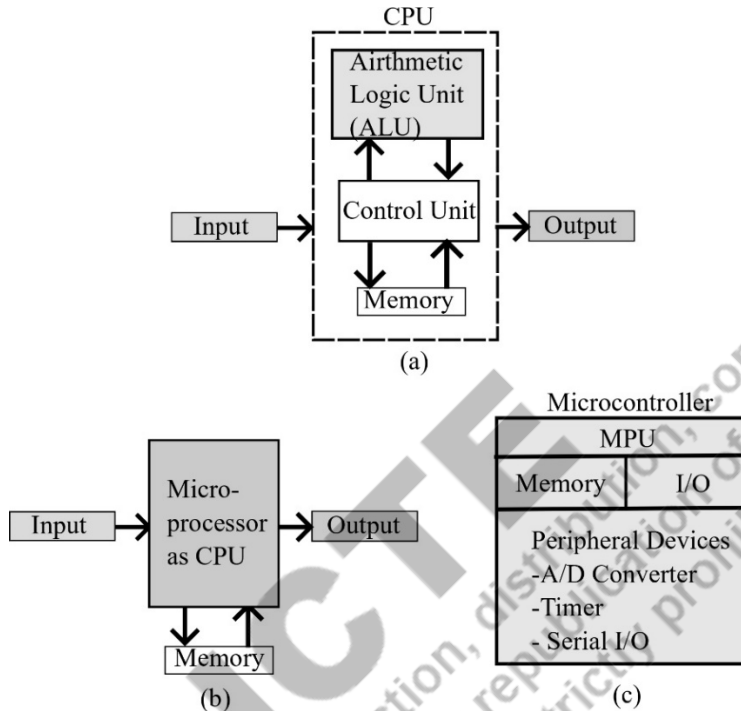

Figure 1.1 Block diagram of a computer [R. S. Gaonkar,1996]
A microprocessor is a versatile, programmable, clock-driven electronic device that contains Memory, Control Unit (CU) and ALU (Arithmetic and Logic Unit). It reads binary instructions from memory, accepts binary data as input, processes it according to those instructions, and provides outputs the results. At a basic level, we can compare a microprocessor to the human brain, which also processes information based on instructions stored in its memory. Both microprocessors and the brain have memory systems. Microprocessors use various types of memory, like cache and RAM, to temporarily store data for processing. Similarly, the brain has short-term and long-term memory for storing and retrieving information for cognitive tasks. Just as a microprocessor processes information in a computer, the brain processes sensory information and generates responses. The brain gets input from the eyes and ears and sends processed information to output devices like the face, hands, or feet. However, the complexity of the human brain and its memory is far greater than of a microprocessor and its memory. A typical programmable machine consists of four main components: the microprocessor, memory, input, and output, as shown in Figure 1.1.
elements of this system are referred to as hardware. A series of instructions written for the microprocessor to execute a specific task is called a program, and a collection of these programs is known as software. The system illustrated in Figure 1.1 can be programmed to control traffic lights, perform mathematical computations, or operate a guidance system. Based on its application, the system can vary in complexity and is named according to its intended purpose. Microprocessor applications are generally classified into two main categories: reprogrammable systems and embedded systems. Here's an explanation of each:
We can also view the microprocessor as a critical component of a computer. A block diagram of a digital computer is shown in Figure 1.1(a), illustrating that a computer consists of four main components: memory, input, output, and the central processing unit (CPU). The CPU comprises the arithmetic/logic unit (ALU) and the control unit. It contains various registers for data storage, the ALU for performing arithmetic and logical operations, instruction decoders, counters, and control lines. The CPU reads instructions from memory and executes the specified tasks, communicating with input/output devices to either receive or send data. These input/output devices, also known as peripherals, interact with the CPU, while the control unit manages the timing of these communications.
In the late 1960s, the CPU was built from separate components on different boards. However, with the advancement of integrated circuit technology, the entire CPU could be placed on a single chip. This single-chip CPU became known as a microprocessor, transforming the traditional block diagram in Figure 1.1(a) to the one shown in Figure 1.1(b). When a computer uses a microprocessor as its
CPU, it is referred to as a microcomputer. The terms "microprocessor" and "microprocessor unit" (MPU) are often used interchangeably, with MPU referring to a complete processing unit that includes all necessary control signals. Due to the limited number of pins on a microprocessor package, certain signals, like control and multiplexed signals, need to be generated using additional devices to fully function as an MPU. As semiconductor technology improved, manufacturers were able to integrate not only the MPU but also memory and input/output interfacing circuits onto a single chip, known as a microcontroller or microcontroller unit (MCU). A microcontroller functions like a complete computer on a single chip. As shown in Figure 1.1(c), a microcontroller chip includes additional features such as an A/D converter, serial I/O, and timers, which will be discussed in later chapters.